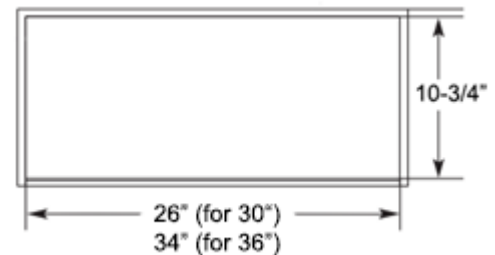
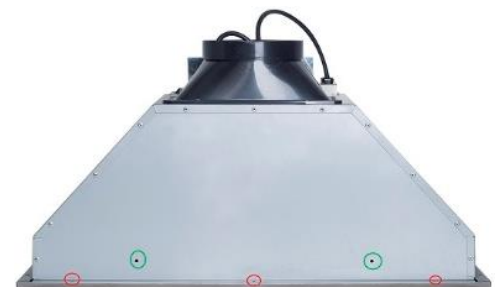

Figure 2
Figure 3
13. Cut out the opening where the insert will be installed. Refer to Figure 2. Refer to page 10.
15. Locate the screw holes (4) on each side of the insert. Adjust the level of the hood casing support according to the thickness of the base.
16. Secure the hood using the screw holes that are located at the front and back of the unit (screws provided). Refer to Figure 3.